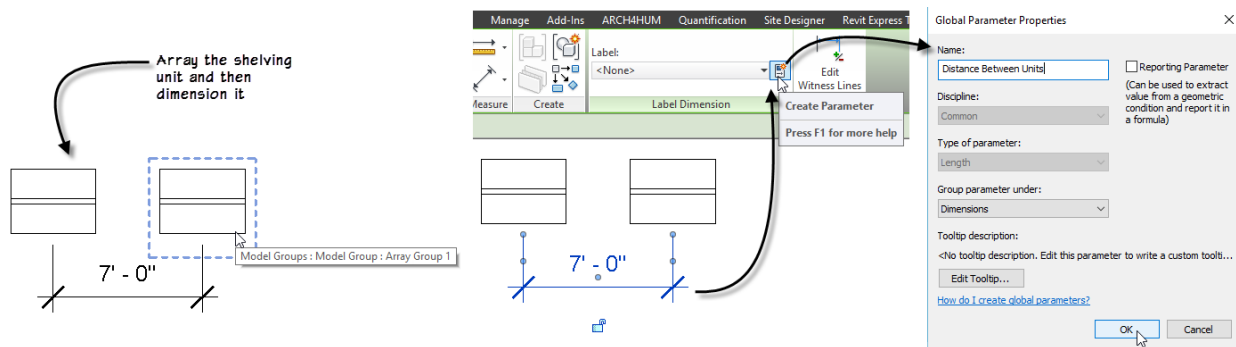

Figure 47
7. Name the parameter: **Distance Between Units** and then click OK (see Figure 47).